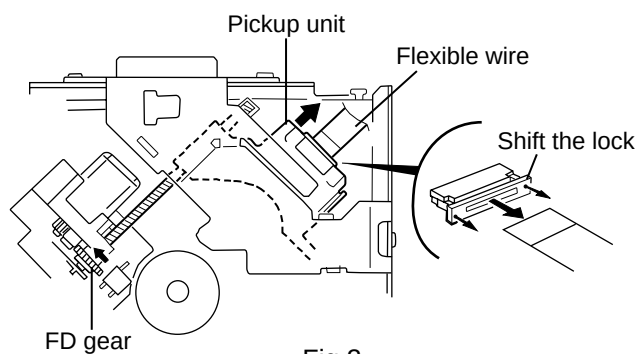

Fig.2
■ Removing the front chassis (See Fig.2)
ATTENTION: Turn the FD gear in the direction of the arrow to move the entire pickup unit to the appropriate position where the flexible wire of the CD mechanism unit can be disconnected easily (Refer to Fig.2).